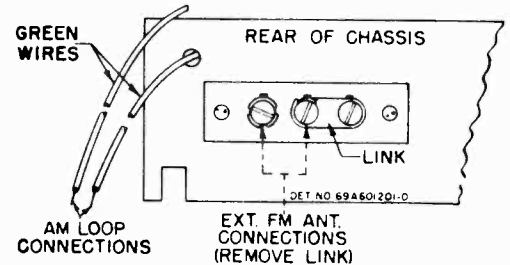

FIGURE 1. ANTENNA CONNECTIONS
No outside antenna or ground is normally required for standard broadcast (AM) reception, as a loop antenna is located inside the cabinet. Antenna connections are shown in Figure 1. In locations where additional pick-up is desired, an external antenna may be connected to the clip marked "EXT BC ANT" on the loop antenna.
An FM antenna, built into the power cord, eliminates the need for an external FM antenna when the receiver is used in normal FM service areas, such as are found in and for a few miles around metropolitan areas. In "fringe" or weak signal areas, improved FM reception can be obtained by using an outside FM antenna. The external antenna should be connected through a 300 ohm twin transmission line to the 1st & 2nd screws on the terminal strip on the chassis, as in Figure 1. The link between the 2nd & 3rd screws should be opened. Orient the antenna to obtain maximum volume of the FM stations.